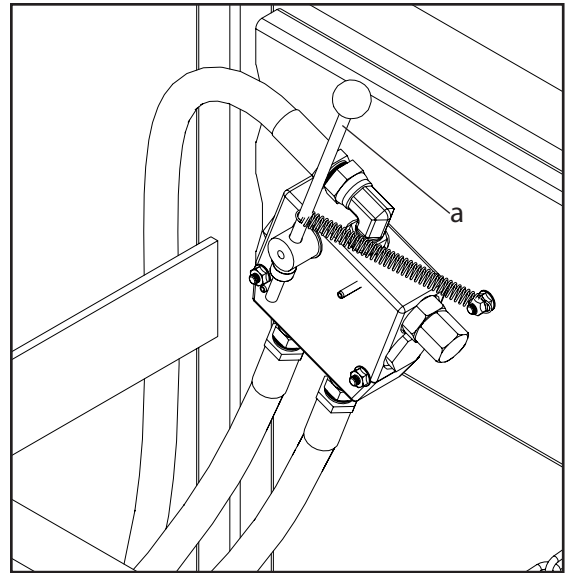

Figure 9: Control Lever
- The control levers (a, Figure 9) control the speed at which the reels rotate. Pushing the levers forward will cause the reels to speed up, while pulling the levers back will cause the reels to slow down. The reels will stop when the levers are released.